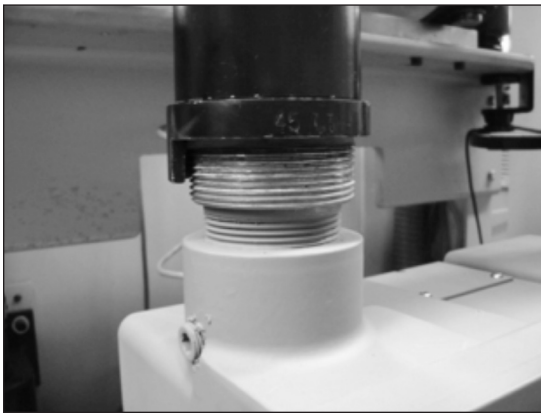

Figure 1.10 Example - SNAP connections properly fitted to meter
1. Install the meter on the prover table and adjust the meter arms to fit the appropriate height and width of the meter as shown in Figure 1.10 Example. On the Series III prover, extensions are required for the meter connections due to shorter height of the meter. Utilize the correct meter connections per what is installed on the meter. (Example: If you ordered 45LT connections on the meter use the 45LT swivels on the prover.)